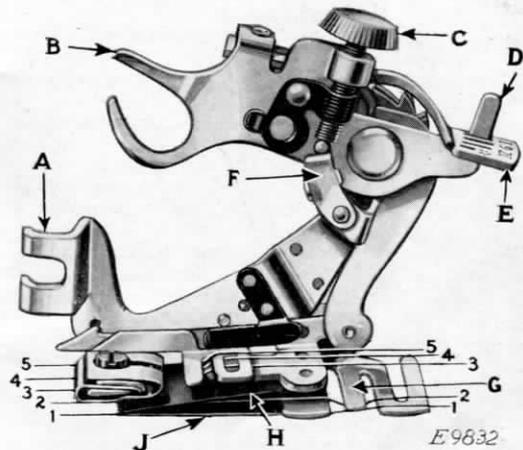
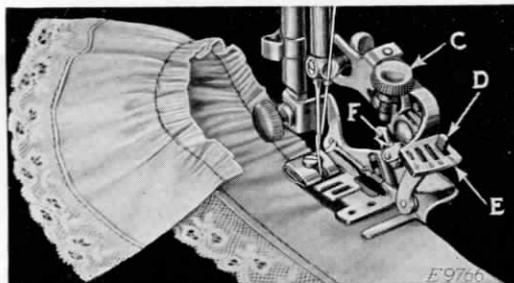
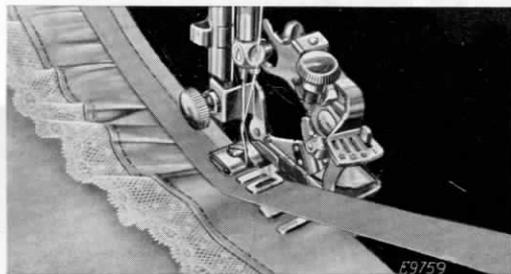
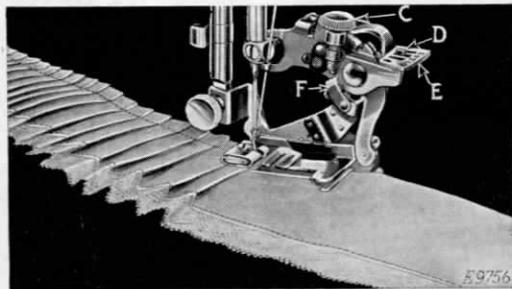

FIG. 58. THE RUFFLER AND ITS PARTS
Fig. 59
Fig. 61
FIG. 63
Lines 1, 2, 3, 4 and 5 shown in Fig. 58 indicate where the material is to be placed for various operations, as follows:
Refer to Fig. 58 when inserting the material in the ruffler.
(SEE REFERENCES IN FIG. 58)
Raise the needle bar to its highest point and remove the presser foot. Attach the ruffler foot (A, Fig. 58) to the presser bar by means of the thumb screw, at the same time placing the fork arm (B, Fig. 58) astride the needle clamp as shown in Fig. 59.
The adjusting finger (F, Fig. 59) is not intended for gathering and should be moved toward you or away from the needle, as shown in Fig. 59.
Raise the adjusting lever (E, Fig. 59) and move it to the left so that the projection (D, Fig. 59) will enter the slot marked "1" in the adjusting lever (E) when the lever is released. The ruffling blade will then move forward and back once at every stitch. Insert the material to be ruffled between the two blades, following the line 2 in Fig. 58. Draw the material slightly back of the needle, lower the presser bar and commence to sew.
To make fine gathering, shorten the stroke of the ruffling blade by turning the adjusting screw (C, Fig. 59) upwardly; also shorten the stitch. To make full gathering, lengthen the stroke of the ruffling blade by turning the adjusting screw (C) downwardly; also lengthen the stitch. By varying these adjustments, many pleasing varieties of work can be accomplished.
2, in Fig. 58. Place the garment to which the ruffle is to be attached, under the separator blade, following the line 1, in Fig. 58. Proceed the same as for gathering.
Insert the material to be ruffled between the two blue blades, following the line 2, in Fig. 58. Place the garment to which the ruffle is to be attached under the separator blade, following the line 1, in Fig. 58. Place the material for the facing over the upper blue blade, as shown in Fig. 61, following the line 3, in Fig. 58. The facing may be straight or bias material. If the facing is to be on the right side of the garment, place the garment and
Insert the material to be ruffled between the two blue blades, following the line 2, in Fig. 58. This
The material for piping must measure about $\frac{1}{4}$ inch wide when folded in the centre and is usually cut on the bias. Place the piping material in the ruffler, following the line 4, in Fig. 58, with the folded edge of the piping to the right. The material to which the piping and ruffling are to be sewn should be folded on the edge and inserted in the ruffler, following the line 5, in Fig. 58.
Raise the adjusting lever (E, Fig. 63) and move it to the right so that the projection (D, Fig. 63)
will enter the slot marked "6" in the adjusting lever when the lever is released. The ruffling blade will then move forward and back once at every six stitches. To adjust the ruffling blade to make a plait once at every twelve stitches, place the adjusting lever (E, Fig. 63) so that the projection (D) enters the slot marked "12" in the adjusting lever. Insert the material to be plaited between the two blue blades, following the line 2, (Fig. 58). The size or width of plaits is regulated by the adjusting screw
(C, Fig. 63) and the adjusting finger (F, Fig. 63). To make a wider plait, move the adjusting finger (F) back or toward the needle and turn the adjusting screw (C) downwardly. To make a smaller plait, turn the adjusting screw (C) upwardly. The distance between plaits is regulated by the length of stitch.